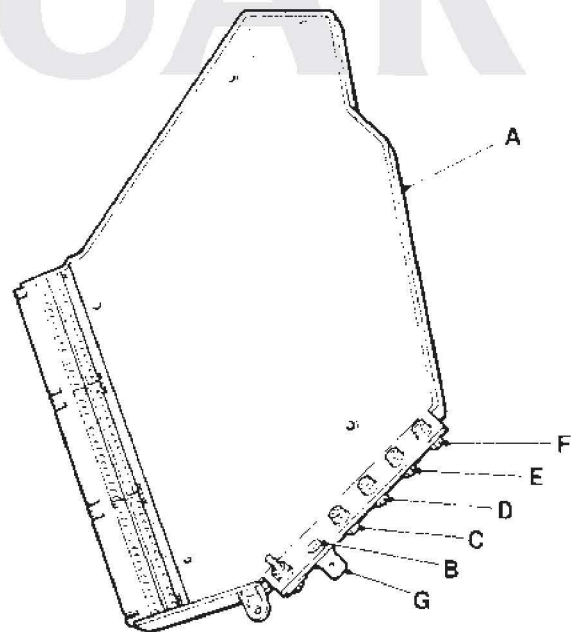

FIG 1
2. Remove the necessary trim items from the right-hand side of the unit to gain access to the microprocessor assembly, Fig 1 (A).
4. Using a digital voltmeter, touch one lead on to the earth rivet Fig 1 (B). Then, in turn, probe each of the four earth connection bolts, Fig 1 (C, D, E and F); if the earth connections are satisfactory, '0' volts will be indicated. If, during probing, any one of the four readings is abnormally higher, this will indicate a poor earth track.
10. Switch-off the ignition. Disconnect the earth lead from the Lucar connector on the reverse side of the microprocessor earth rivet, Fig 1 (G).
11. Using a digital meter, measure the resistance (Ohms) between the earth rivet, Fig 1 (B) and the four earth connections, Fig 1 (C, D, E and F).
12. If a higher reading is identified, proceed as points 5, 6, 7 and 8, with the exception that all checks should be conducted with the ignition turned-off and measurements taken in resistance (Ohms) mode. Please note that when required in Operations 6 and 7 to check the system, ensure that earth lead Fig 1 (G) is reconnected before commencing the system check.